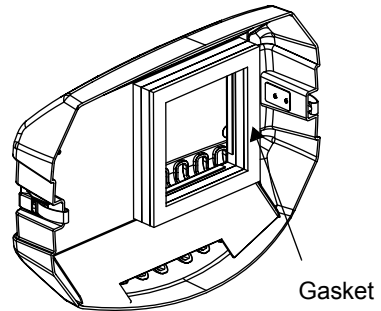

Figure 5-2 DL.1 Rear Gasket
2. Remove the six M4 socket cap screws from the motor power supply side of the fixture, as shown in Figure 5-2:
4. Locate the fuse holder (circled in Figure 5-2).